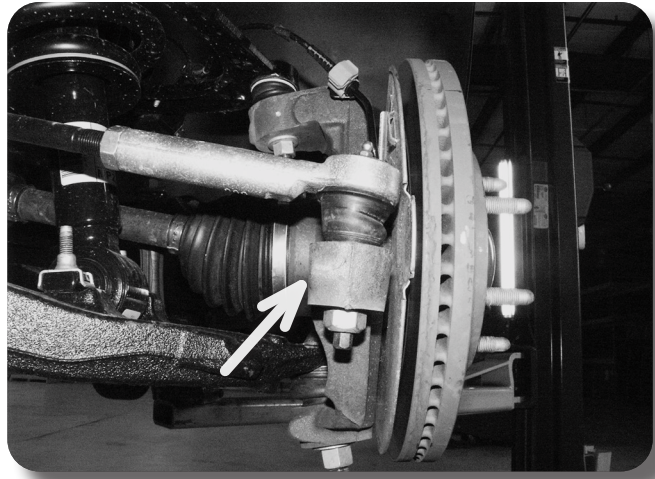

Figure 2
5. Remove tie rod end nut. Strike the knuckle near the tie rod end to dislodge the tie rod end tapered seat **Figure 2**. Retain tie rod end nut.